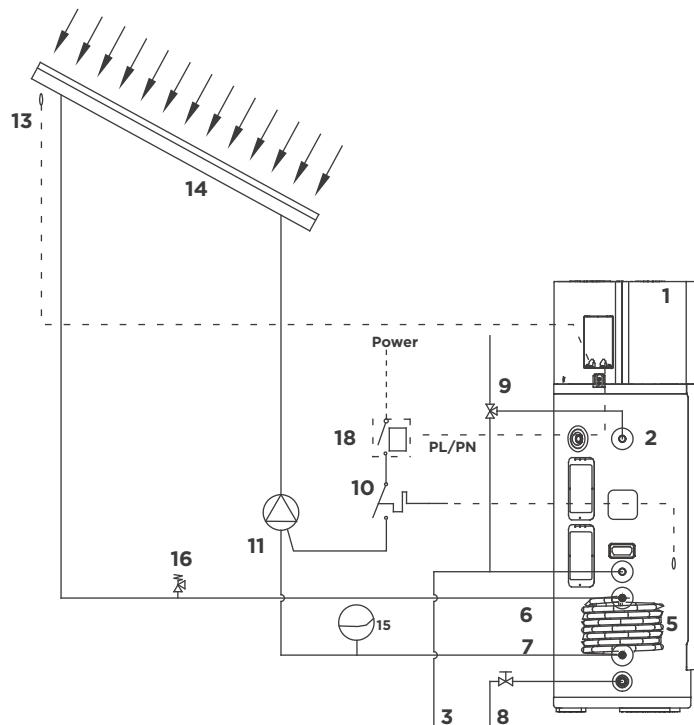

Fig 2-9 Hydraulic Connection with Solar thermal System
2.3.1.2 If there is no dedicated controller for solar system, the heat pump controller can be used for solar system control (The schema is shown in Figure 2-9). It is necessary to enter engineering mode and set the parameter F32=3.